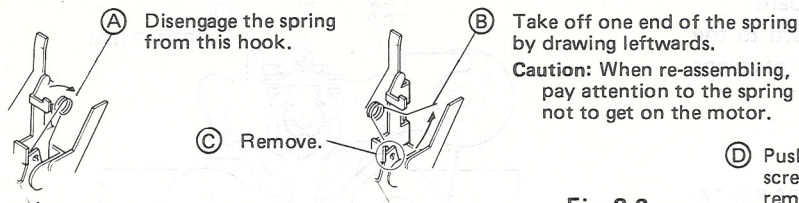

Fig. 2-6
2. Pressing the holder by the point shown in the figure, remove it from the shaft by sliding. (Refer to (D) and (E) in Fig. 2-6.)